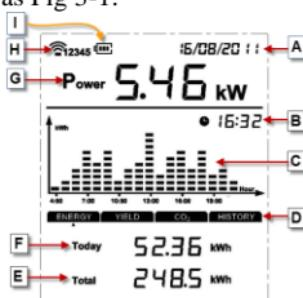

Fig 3-1 Solar Eye main interface
Solar Eye main interface as Fig 3-1:
Pos. Fig 3-1	Description
- 1)**Hour:** Press “right” button, you can view the energy and power values/hour of last 34 hours yield by your PV system, Shown as in “Fig 3-1” “B” means the time you check, ”F” means energy and power values yield in this hour.
- 2)**Day:** Press “right” button, you can view the energy and power values/day of this day yield by your PV system, Shown as in “Fig 3-1” “A” means the data you check, ”F” means energy and power values yield in the day.
- 3)**Week:** Press “right” button, you can view the energy and power values/week of last 34 weeks yield by your PV system, Shown as in “Fig 3-1” “B” means the week you check, ”F” means energy and power values yield in this week.
- 4)**Month:** Press “right” button, you can view the energy and power values/month of last 34 months yield by your PV system. Shown as in “Fig 3-1” “A” means year you check, ”F” means energy and power values yield in this month.
- 5)**Year:** Press “right” button, you can view the energy and power values/year of last 4 years yield by your PV system. Shown as in “Fig 3-1” “A” means year you check, ”F” means energy and power values yield in this year.